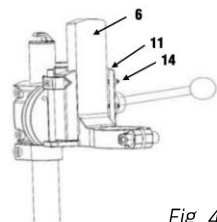

Fig. 4
5. Check that the slide head (#6) is operating smoothly (Fig. 4).